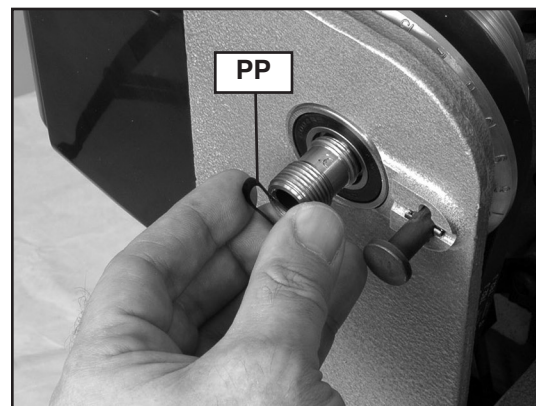

Fig. 32
6. Remove wave spring (PP) Fig. 32.